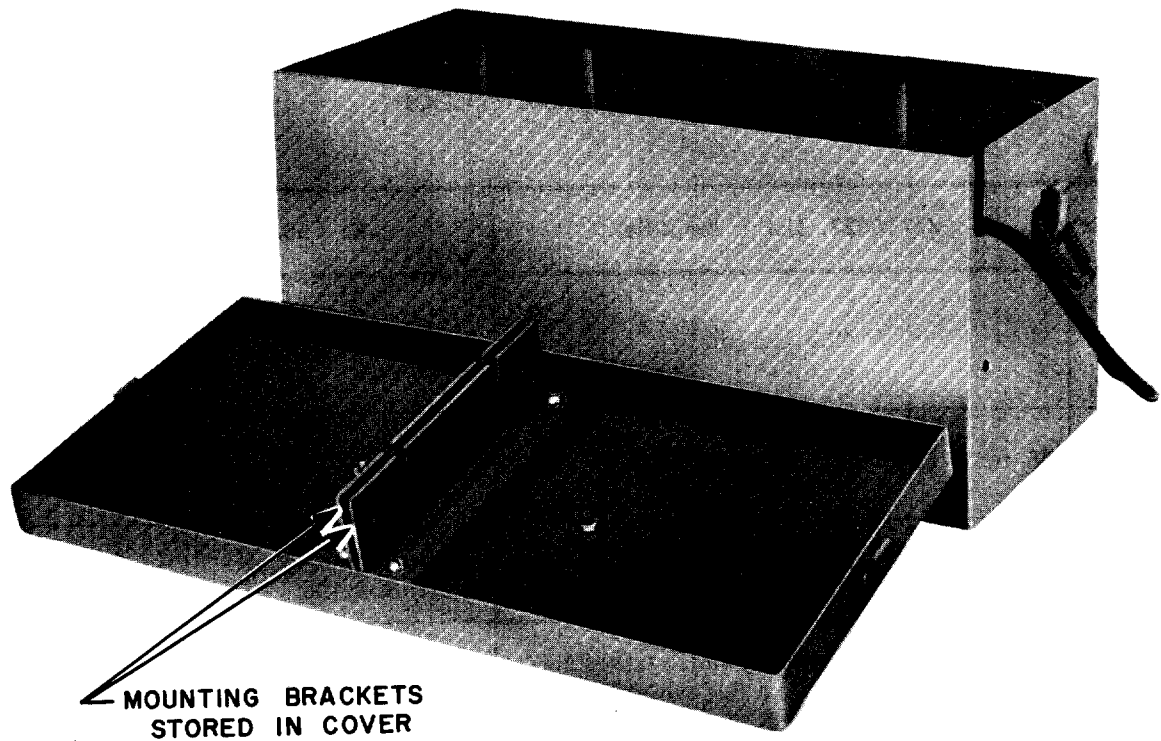

Fig. 5 - List 5 Carrying Case
1.07 The KS-16831, List 5 carrying case is a portable metal box which provides mounting facilities for two KS-16831 amplifiers and two KS-16831, List 4 power supplies. The mounting plate for the power supplies is equipped with two power receptacles and a power cord 6 feet long for connecting to the power source. The case may be used in its portable form for field service or may be mounted on a standard 19-inch relay rack by means of brackets supplied with it. The brackets are stored inside the cover when not in use and when required may be fastened to each end of the case with screws. Fig. 4 shows a view of the carrying case. The mounting brackets, as stored in the cover, are shown in Fig. 5.